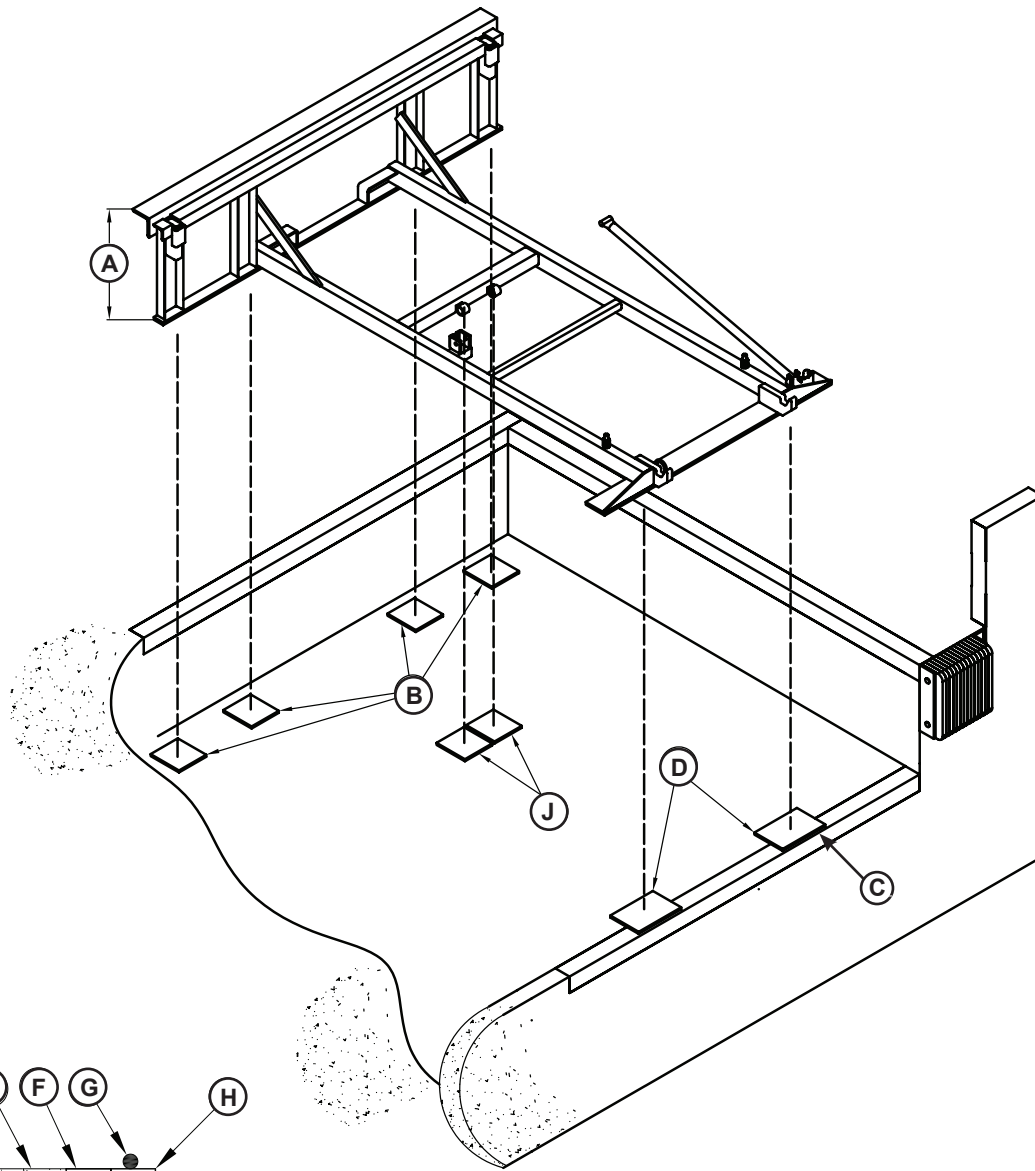
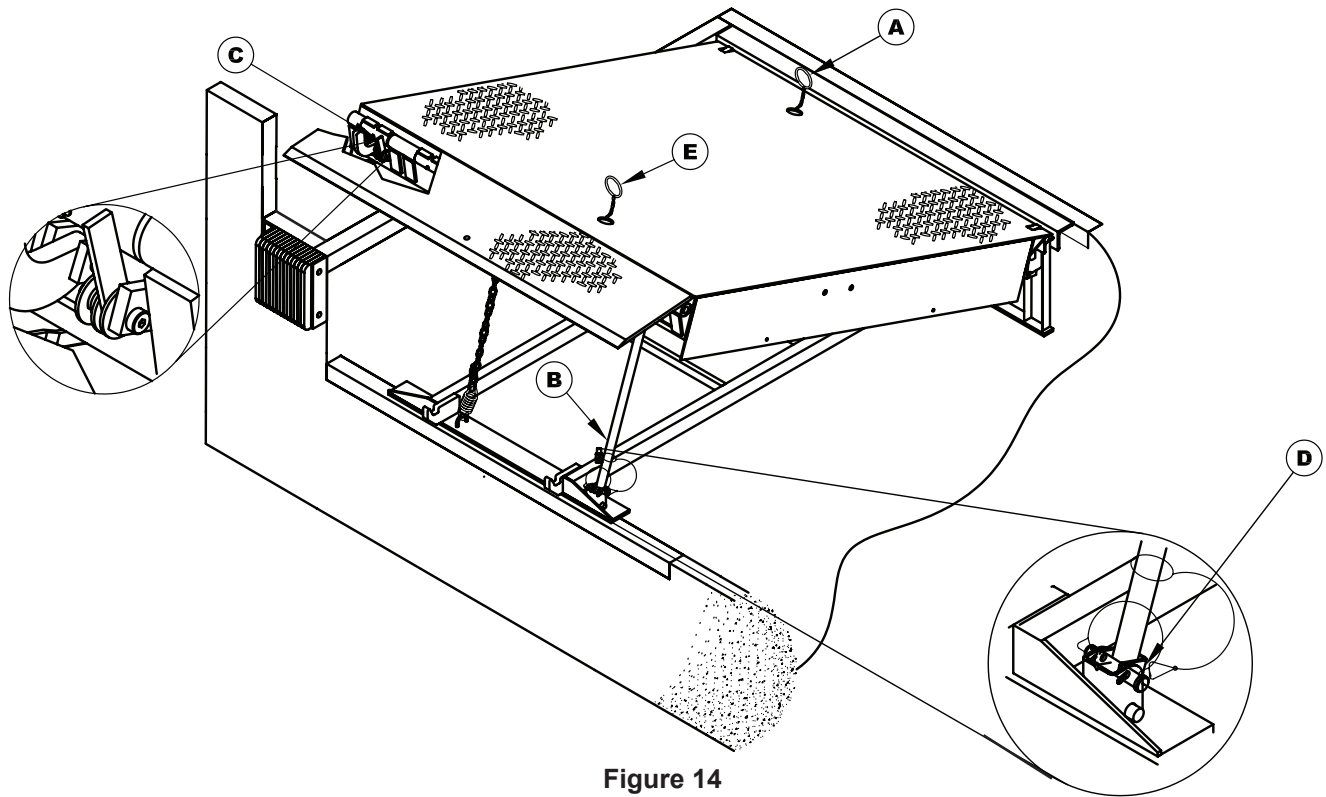

Figure 9
Figure 14
21. Pull the release ring (A) to raise the platform. Engage lip maintenance prop (C).
22. Shim and weld the maintenance prop (Figure 14):
- a. Install shims under maintenance prop (B) where prop attaches to leveler frame. Make sure prop is solidly shimmed.
- b. Raise maintenance prop (B) to the service (upright) position and lock prop in this position using an OSHA approved locking device.
23. Install shims under lift arm (J, Figure 9 on page 14) at locations using an acceptable shimming method (see Figure 15). The lift arm pivot must be solidly shimmed the entire length of the lift arm pivot. Make sure the lift arm pivot is level from side-to-side.